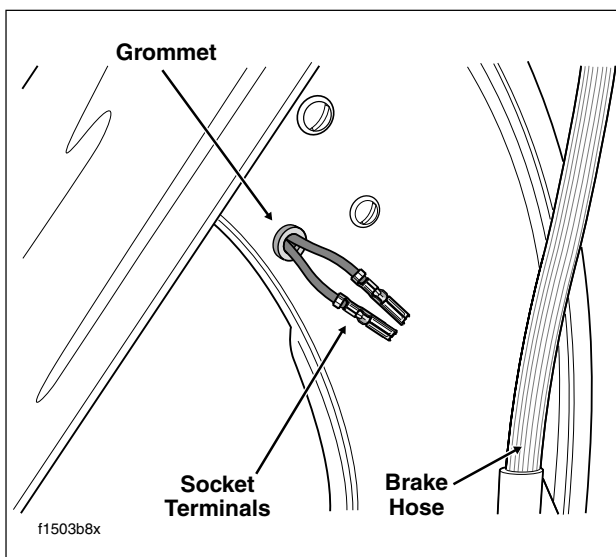

Figure 8-46. Pull Fender Tip Lamp Wires and Terminals Through Fender Grommet
9. Pull wires and Multilock socket terminals through grommet to inboard side of fender. See Figure 8-46. Reaching under left side of fender, release wires from one weld clip and four metal adhesive clips.
10. Pull Multilock socket terminals and wires through grommet to outboard side of fender. See Figure 8-46.